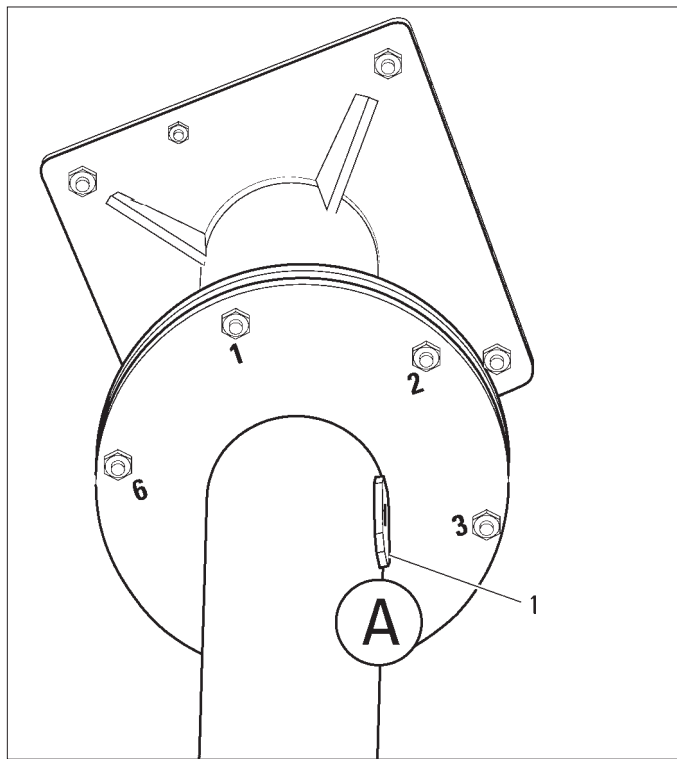

Fig. 1
- ⇒ Place the precision spirit level (1) vertically on Side **A** below Screw **2** at the upper segment of the Leica Mini Mount (Fig. 1).